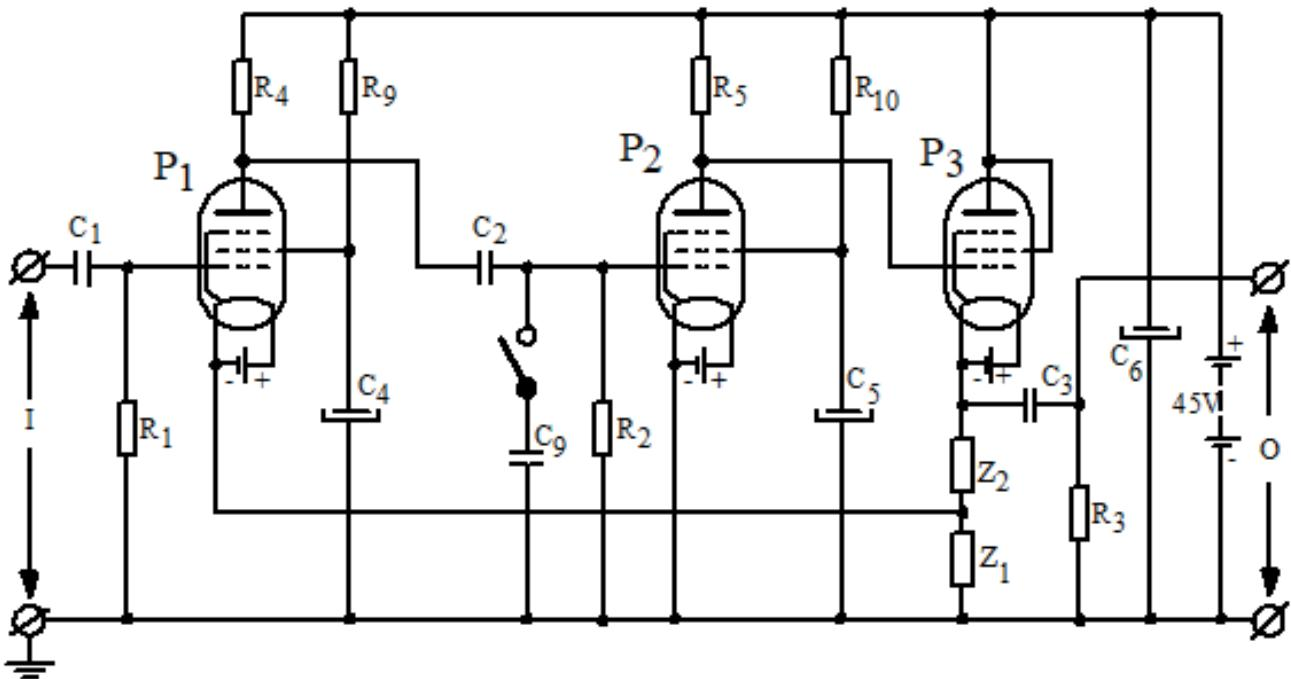

Figure 3. Circuit diagram of the amplifier. I = input, O = output
The schematic circuit is shown in figure 3. The three tubes are pentodes, type DL 67. For more information about pentodes, please see ref. 3. As the cathodes are not interconnected in this circuit, each filament (current 13 mA) is fed from its own battery (1.5 V). The battery boxes mentioned above, guarantee adequate insulation between the batteries themselves and with respect to earth. Since the DL 67 uses a directly heated cathode, the cathodes cannot be connected and should be heated from individual batteries (see also ref. 4).
The screen grids are decoupled by capacitors C_4 and C_5 , which are electrolytic capacitors of high capacitance ($25 \mu F$), each having in parallel with it a paper capacitor of much lower capacitance (not shown in figure 3). Electrolytic capacitors have the advantage of a very small volume per μF , especially at the low working voltages occurring in this amplifier.
Where amplification of very small voltages within a limited range of frequencies is required, it is useful to be able to reduce the background noise at the expense of the bandwidth. Such conditions will often occur in investigations of mechanical phenomena, which are concerned with very low frequencies; the high-frequency end of the range can then be safely suppressed, thus eliminating the noise attributable to the higher frequencies. This is effectuated very simply by placing a capacitor in circuit (C_9 in figure 3). The noise voltage, referred to the input is less than 10